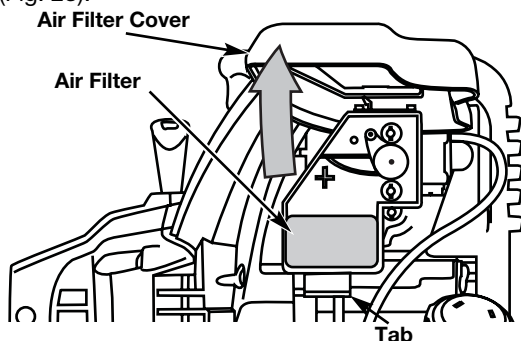

Fig. 23
1. Open the air filter cover. Push the tab on the under side of the cover inward. Then pull the air filter cover out and up. (Fig. 23).
2. Remove the air filter (Fig. 23).
6. Replace the filter (Fig. 23).